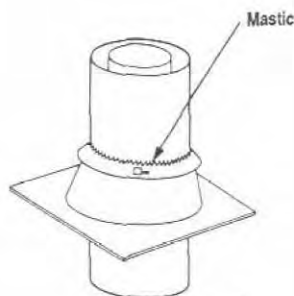

Figure 32
Step 8. The standard Superior roof flashing assemblies include a storm collar. Slide storm collar over outer chimney, align with top surface of flashing, insert storm tab in slot, pull tight and bend tab back over slot. Seal storm collar to outer chimney with roof caulking or mastic around entire circumference of pipe. Also add extra roof caulking where storm collar meets flashing and to the tab/slot area to seal completely against water penetration (Figure 32). Check all joints very carefully to ensure no water intrusion can take place.